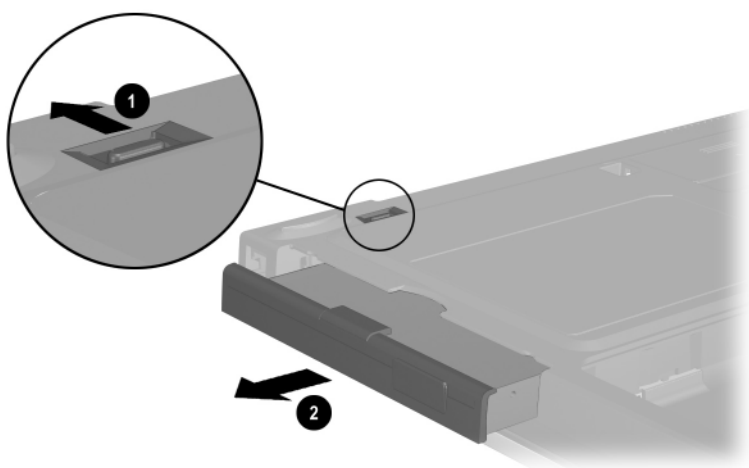

Figure 5-3. Removing a Media Bay Device
- b. Slide and hold the Media Bay release latch toward the back of the notebook ❶ (Figure 5-3).
- c. Use the notch in the Media Bay device to slide the device out of the Media Bay ❷.